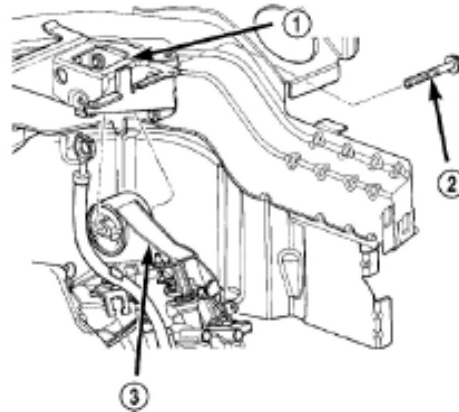

Figure 3-33 Support bolt on transaxle — typical
(19) Screw off the 4 bolts for clutch and drive plate's bolt. When screwing, a drivefit (grooved) drive plate hole will arise. To remove the bolt, mark the drive plate and clutch assembly for the convenience of alignment during assembly.
(20) Support the engine with a screw jack and wooden block.
(21) Screw off the fixing stud on the transaxle and access it via the driver side wheel room (Figure 3-33).